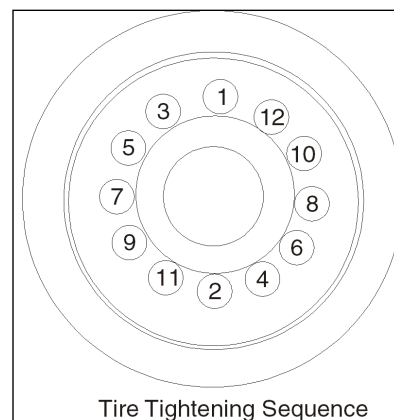

Figure 2-2 Tire Tightening Sequence
- Tighten the nuts in a cross pattern to the correct torque value of 125 ft. lbs. (90 Nm). **See Figure 2-2.** When the nuts stay tight for eight hours, the interval for checking the torque can be extended to 200 hrs.
4. Make sure drive wheel nuts are tight. Tighten the wheel nuts in a criss-cross pattern to a correct torque value of 125 ft. lbs. (90 Nm). **See Figure 2-2.**
10. Install tire/hub assembly onto the truck and torque lug nuts to 125 ft. lbs. (90 Nm.) in a cross-cross pattern. **See Figure 2-2.**